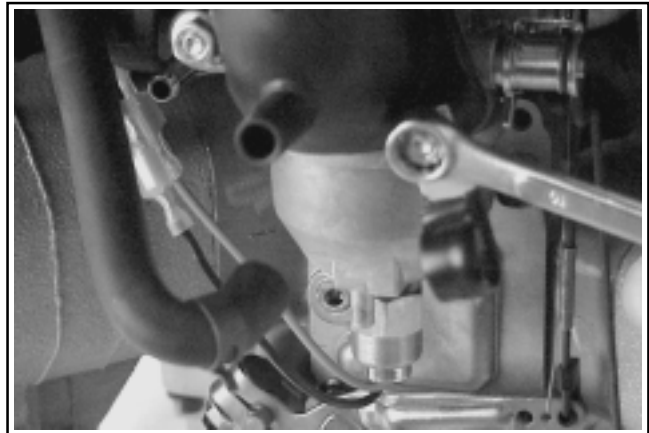

Figure 9-14. Removing Air Cleaner Base.
2. Remove the two hex. flange nuts securing the air cleaner base assembly to the carburetor studs. See Figure 9-14.